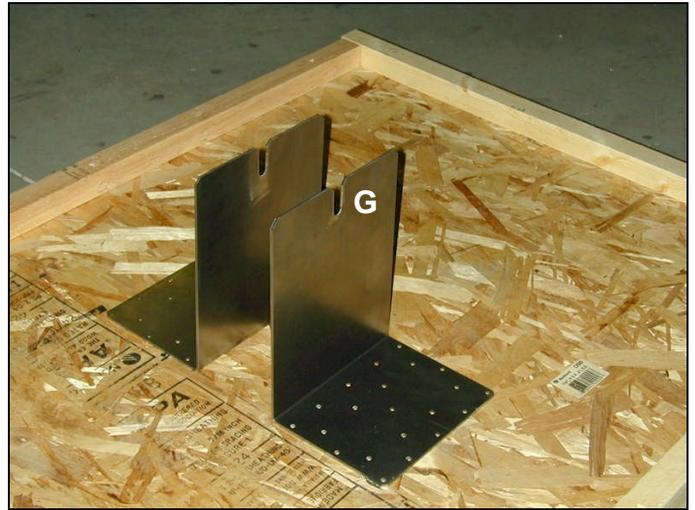

Figure 4
8. The RB-10 is secured to the pallet (Figure 4) by a center cradle (4-G). The telescope altitude bolt is tightened against this cradle to secure it in the cradle slots. Loosen the bolt and lift the telescope off of the cradle (Figure 5) **by grabbing and lifting the center bar (5-H) ONLY.** The telescope weighs about 70 pounds so you may want to enlist the help of another person to lift it off of the cradle.